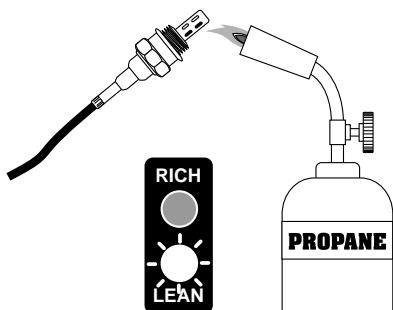

Fig. 1
- Thoroughly heat sensor tip until tip is as hot as possible, but not “glowing”. See Fig. 1.
- Move flame so oxygen can reach sensor tip. (Keep sensor tip hot with flame.) See Fig. 1.